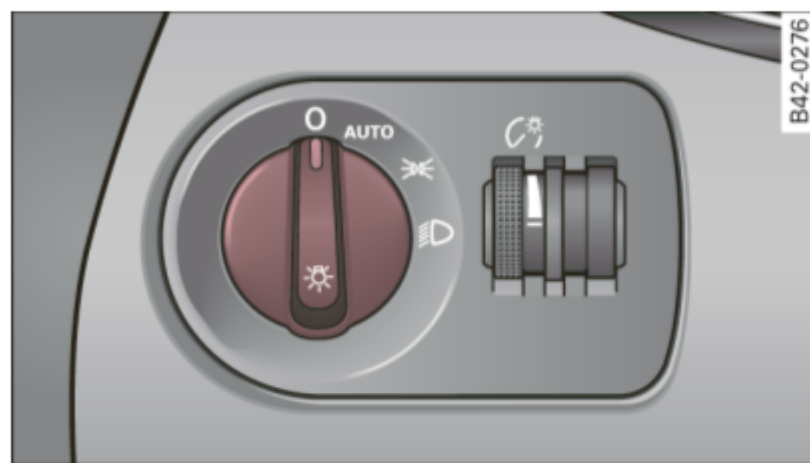

Fig. 42 Instrument panel: light switch (automatic head- and taillight control)
- Turn the light switch to **AUTO** $\Rightarrow$ fig. 42.